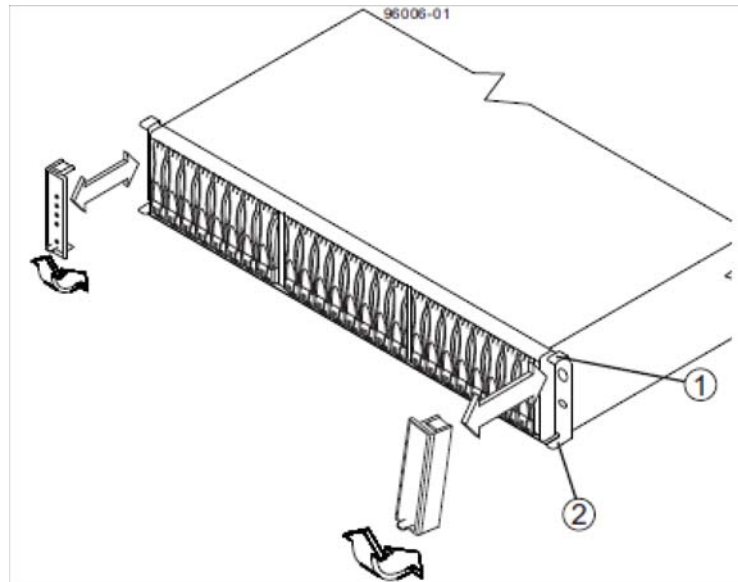

Figure 2-30 Attaching End Caps to the IS2224 Storage Enclosure
11. Secure the enclosure's plastic front-end caps by referencing Figure 2-30 on page 49 and performing the following substeps:
- Put the top of the end cap on the hinge tab (1) that is part of the storage enclosure mounting flange.
- Gently press on the bottom of the end cap until it snaps into place over the retainer (2) on the bottom of the storage enclosure mounting flange.